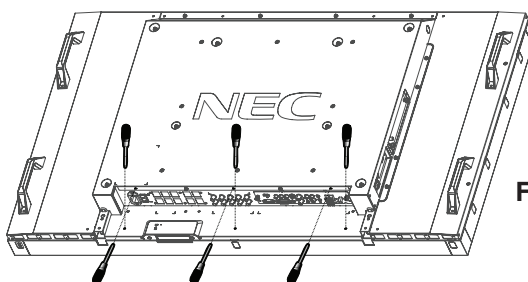

Figure 8
- Remove the six screws (Figure 8).